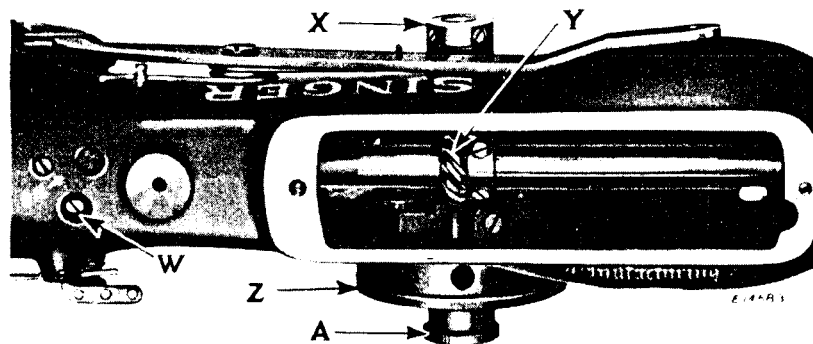
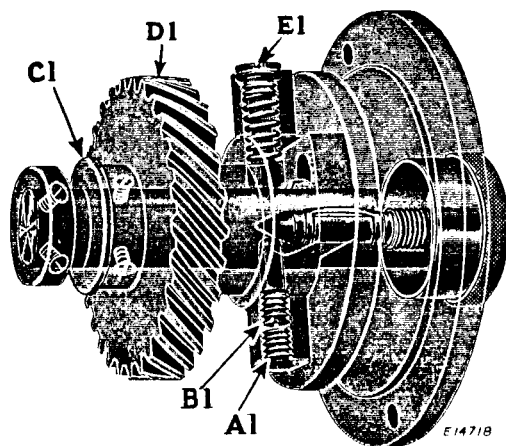

Fig. 18. Arm Cover Removed
Fig. 20. Transparent view showing the needle vibrator regulating spindle head in front of Machine
First turn the needle vibrator spindle head (A, Fig. 18) all the way to the right so that the needle will not vibrate when the
Now turn the needle vibrator regulating spindle head (A) to the left for the widest throw. Turn the balance wheel toward you until the needle is at its lowest position. As the needle bar starts to rise, the needle bar frame should start to move side-wise. If it does not, advance or retard the vibrator gear pinion (Y, Fig. 18).
Remove the needle vibrator regulating spindle head (A, Fig. 18) and the eccentric bracket cover (Z); remove the locking and adjusting screws (A1 and B1, Fig. 20), also the screw and spring (E1). Loosen the two set screws in the gear (D1) and remove the needle vibrator gear shaft collar (X) at the back of the arm, then draw the shaft out.
When replacing these parts be careful that the large washer (C2, Fig. 20) is in place between the gear and arm, that the position screws are set firmly against the flat spots on the shaft and that the set screws are at the right of the position screws when the shaft has been returned to its place.
Remove the balance wheel, belt guard cover and belt, as instructed above. Push back the arm cap, and loosen both set screws in the gear (Y, Fig. 18). Remove the position screw and loosen the set screw in the needle bar crank through the hole (W, Fig. 18) in the arm. The arm shaft can then be withdrawn from the machine.